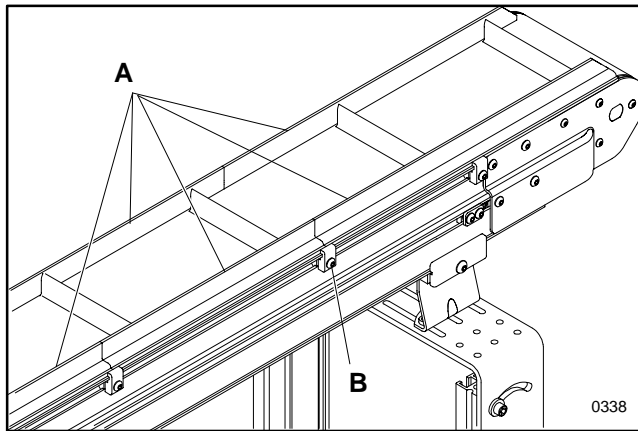

Figure 23: Standard Cleated Belt Conveyor Guiding Removal Detail
The LPZ Standard Cleated belt conveyor is provided with guiding (A of Figure 23) on both sides of each section. When the conveyor belt is going to be replaced, the guiding must be temporarily removed from the side opposite the gearmotor, so that the existing conveyor belt can be removed from that section and the new belt installed.
To remove the guiding, refer to Figure 23 and loosen, remove and retain the guide clamps (B). Guide replacement is in reverse sequence of removal.